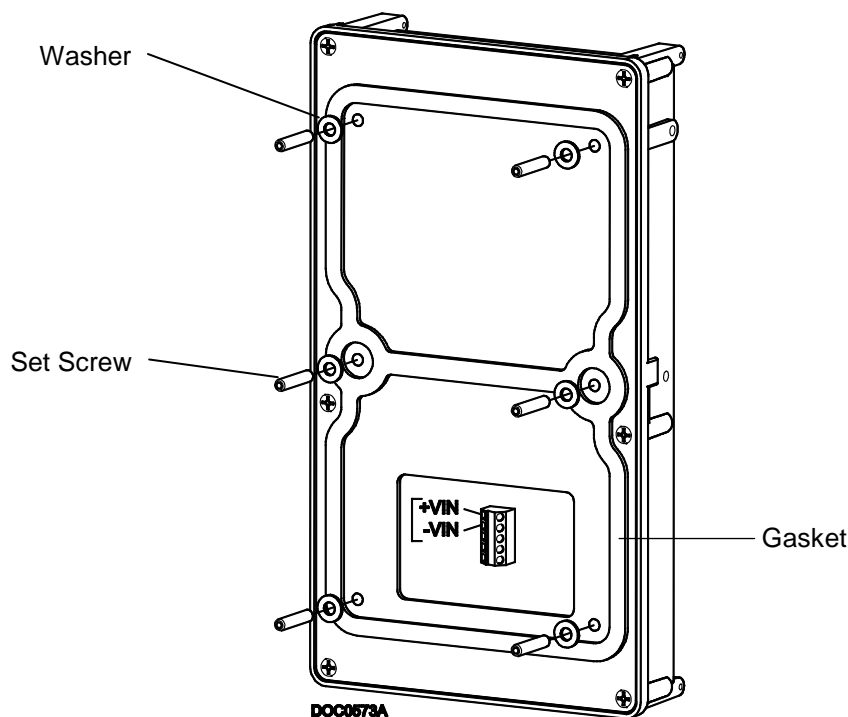

Figure 2-2. Backplate of Keypad Display
7. Install washers and set screws (provided) on the backplate of the keypad display (refer to *Figure 2-2*).
You use the termination block accessible through the cutout on the back of the keypad display (see *Figure 2-2*) to connect wiring for the power and EIA-232 (RS-232) communications. *Table 2-1* shows the power and communications terminations. The terminals accept wires 16 AWG or